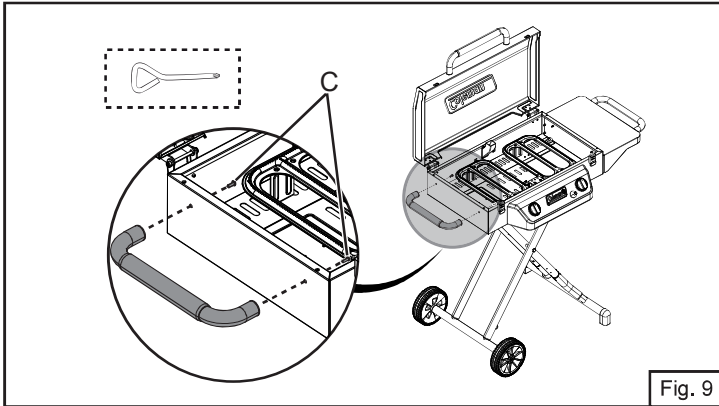

Fig. 9
9. Secure the handle with screws (Fig. 9).